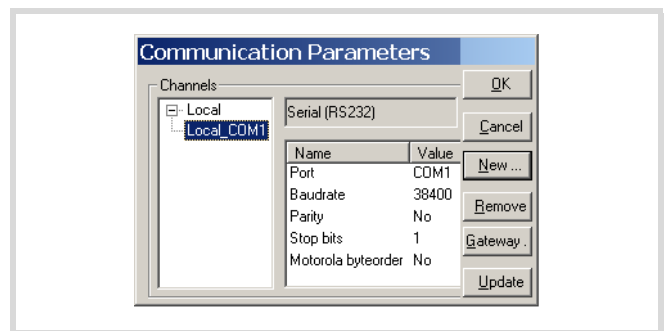

Figure 51: Setting communication parameters
- ▶ Use the remaining settings as shown in Figure 51.